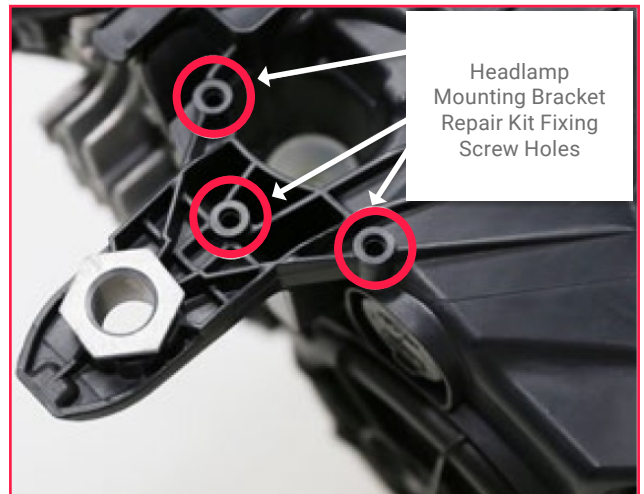

Figure 2
- Whether or not a headlamp is designed to accommodate a headlamp mounting bracket repair kit can be identified via the presence of headlamp mounting repair kit fixing screw holes, as shown in **Figure 2**.